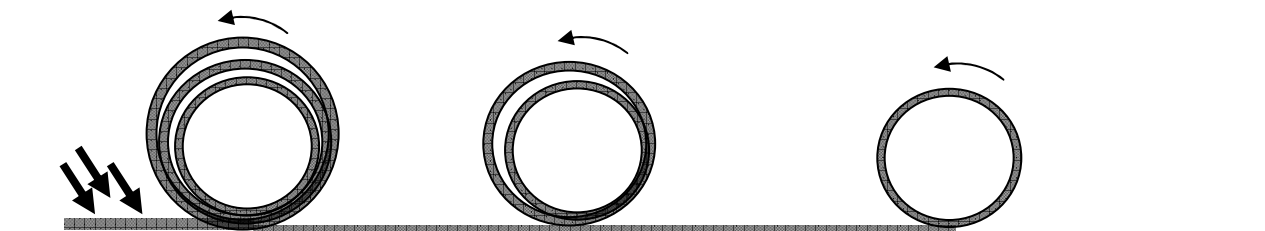

FIG. 5
- 14) WITH THE PERSON AT THE TOP NOW HOLDING THE ROLLED PANEL, QUIETLY PEEL BACK THE PVC BACKING FILM TO EXPOSE THE ADHESIVE ON THE PANEL. PEEL BACK THE FILM ABOUT A METRE AND QUIETLY ALLOW THE PANEL TO ROLL BACK OUT DOWN THE ROOF (FIG.5)